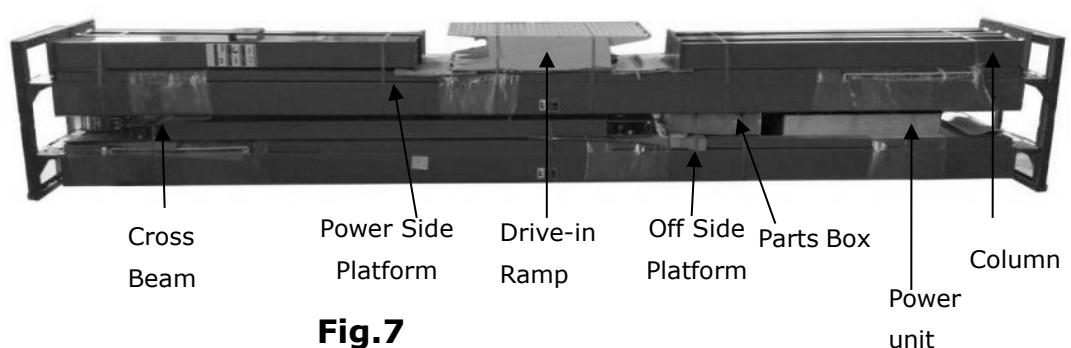

Fig.7
3. Remove the package, check the parts according the shipment parts list. (See Fig. 7).